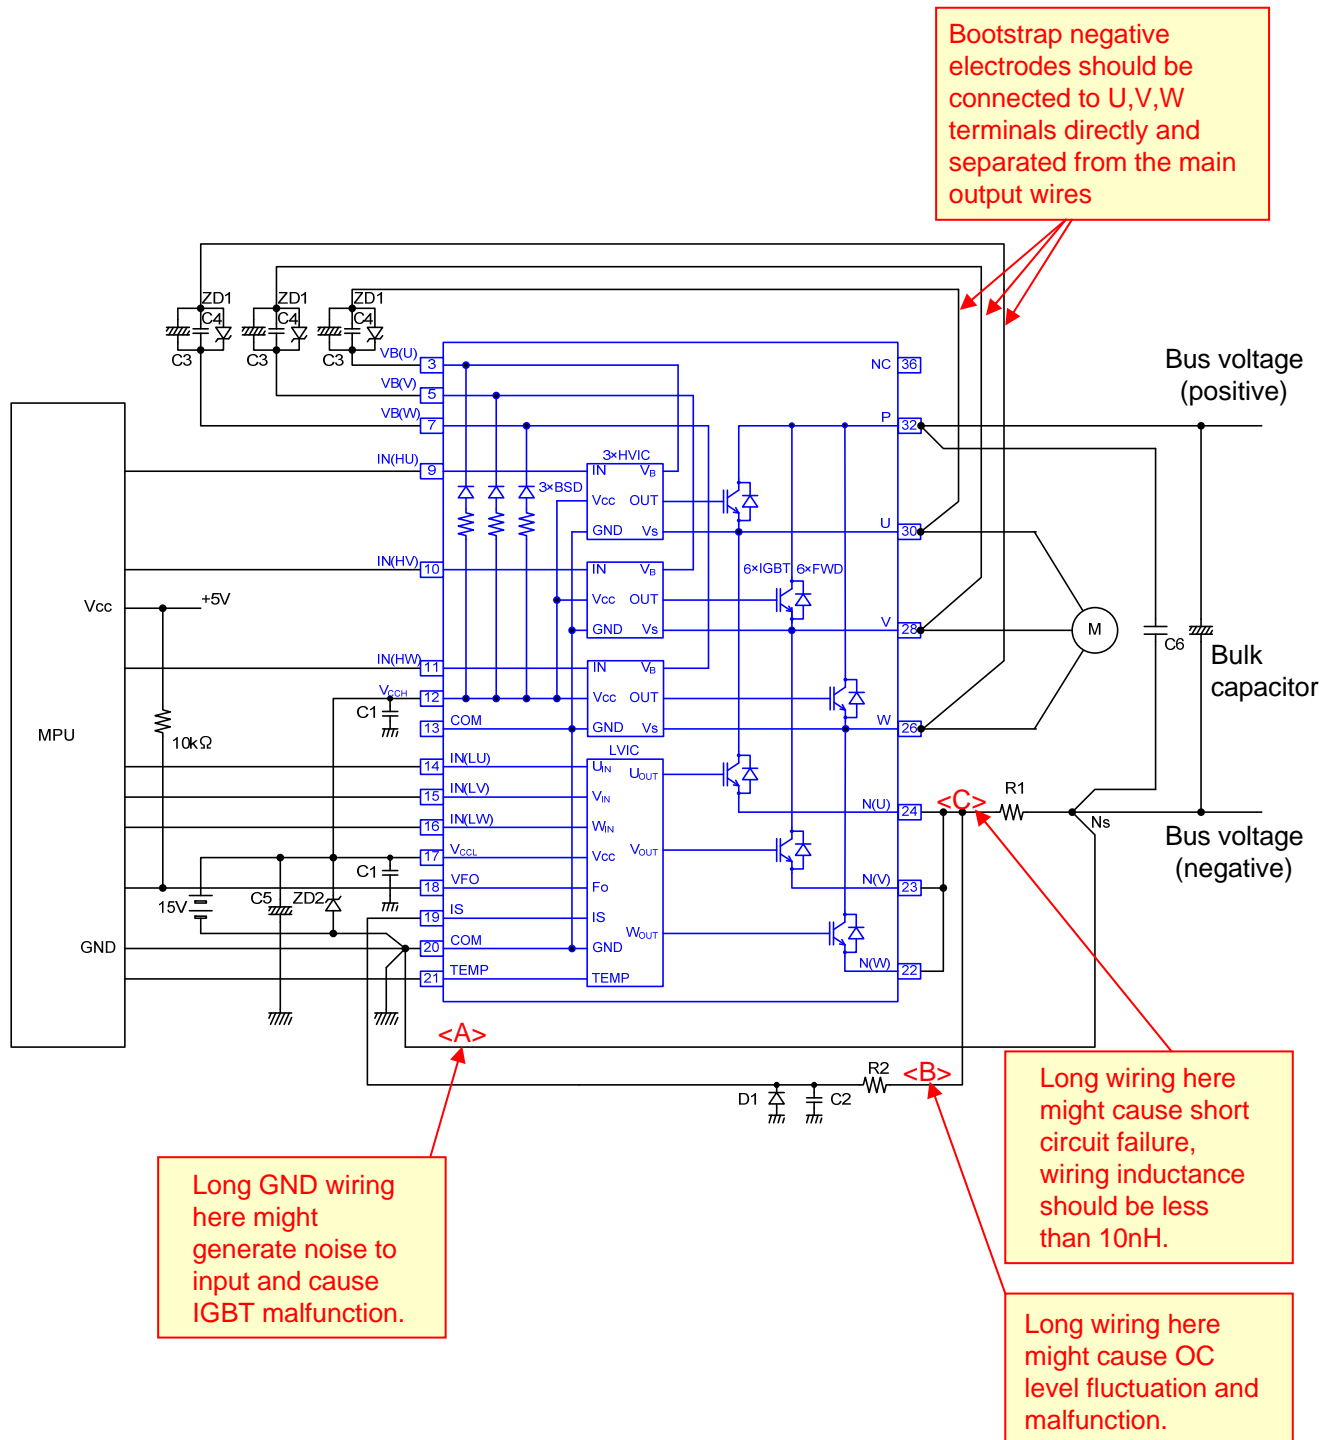
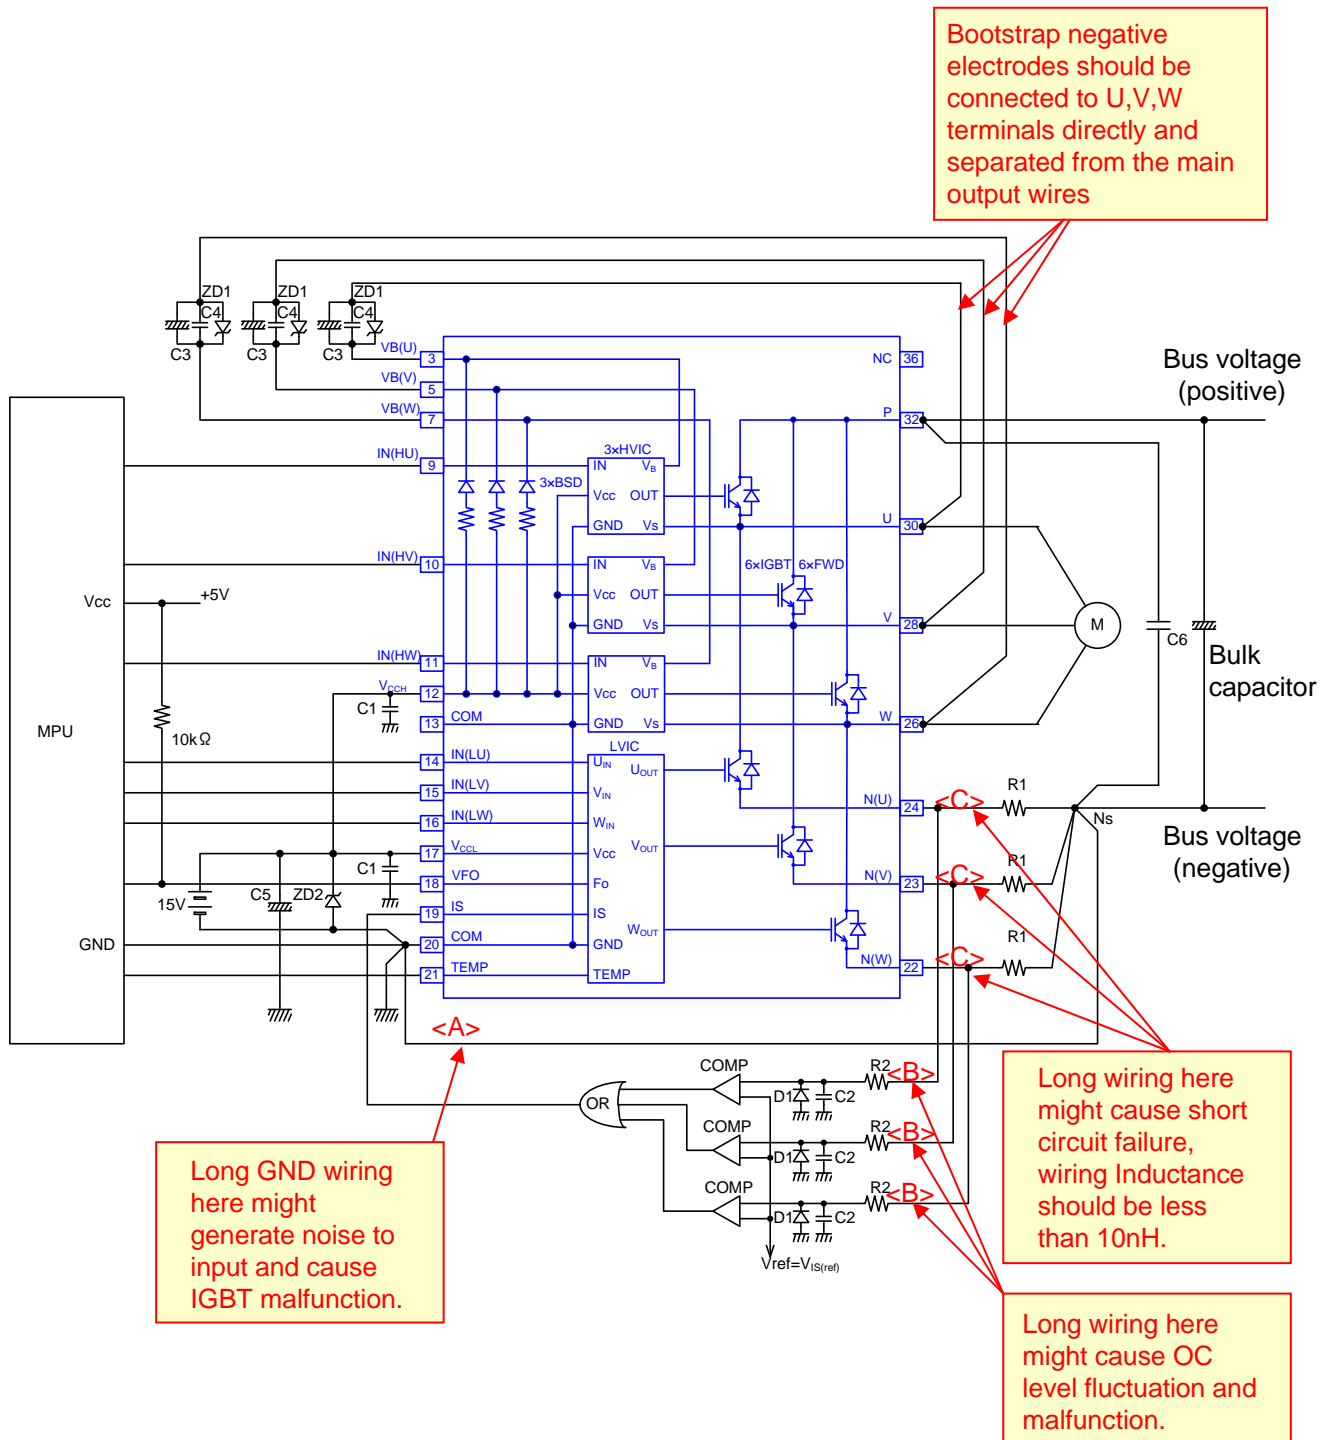
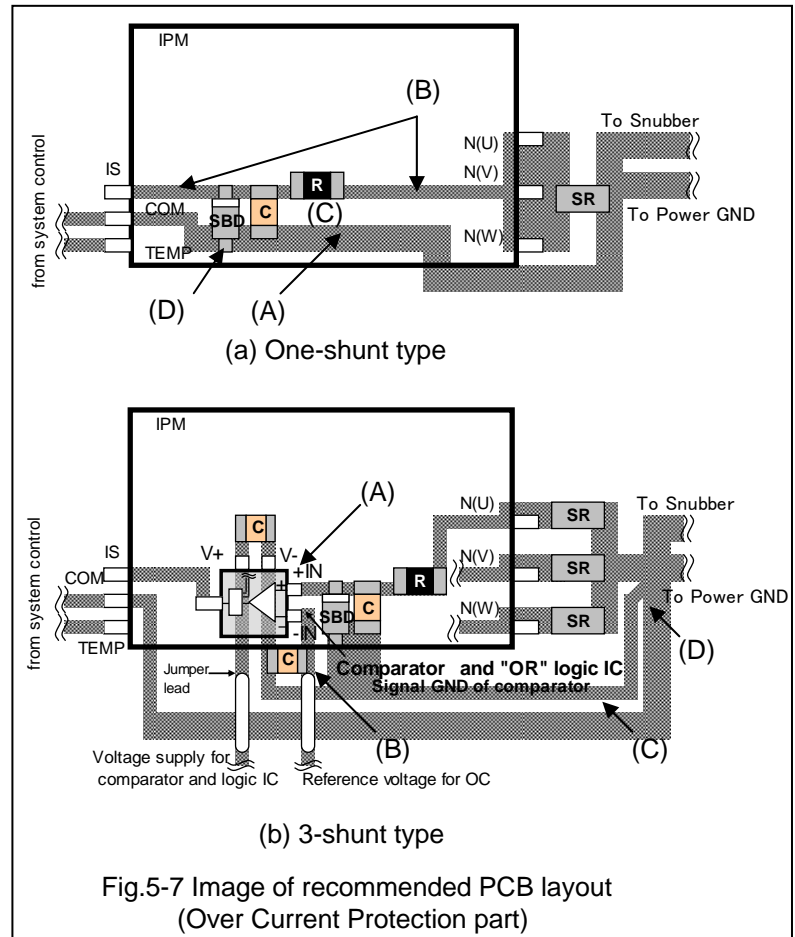

Fig. 5-1 An Example of application circuit (Sensing currents at once with 1 shunt resistor)
Fig. 5-2 Another example of application circuit
Fig.5-7 Image of recommended PCB layout (Over Current Protection part)
Fig. 5-1 and Fig.5-2 show examples of application circuit, and its Notes.
In this section, the recommended pattern layout and precautions in PCB design are described. Fig.5-3 to Fig.5-7 show the image of recommended PCB layout, referring Fig.5-1 and Fig.5-2. In these Fig., the input signals from system control are represented with "IN(HU)".
Like Fig.5-1 and Fig. 5-2, to detect and protect the OC condition, 2 methods of current-sense are shown by example. One is "One-shunt type" (Fig.5-7 (a)) and the other is "3-shunt type" (Fig.5-7 (b)).
In Fig.5-7 (a)
In Fig.5-7 (b)
- (A) Please use high speed type comparator and logic IC to detect OC condition quickly.
- (B) The reference voltage level of OC which is inputted to the comparator should be coupled by capacitor to signal GND. And it should be as close to comparator as possible.
- (C) The pattern of signal GND for COM terminal and the pattern of signal GND for the comparator should be separated each other.
- (D) The pattern of signal GND from COM and the pattern of signal GND of the comparator should be connected together at one point ground. The one point ground should be as close to the negative pole of the shunt resistors.
- (E) The other precautions and recommendations are same as Fig.5-7 (a).